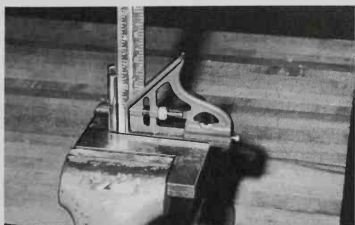

Fig. 4-87. Checking a tap after it is started to make sure it is square with the piece.
5. Check the tap to see if it is starting square with the hole. Remove tap wrench and check work with a square, Fig. 4-87. If the alignment of the tap is out of square, correct the error by applying sidewise pressure as you continue turning the tap.